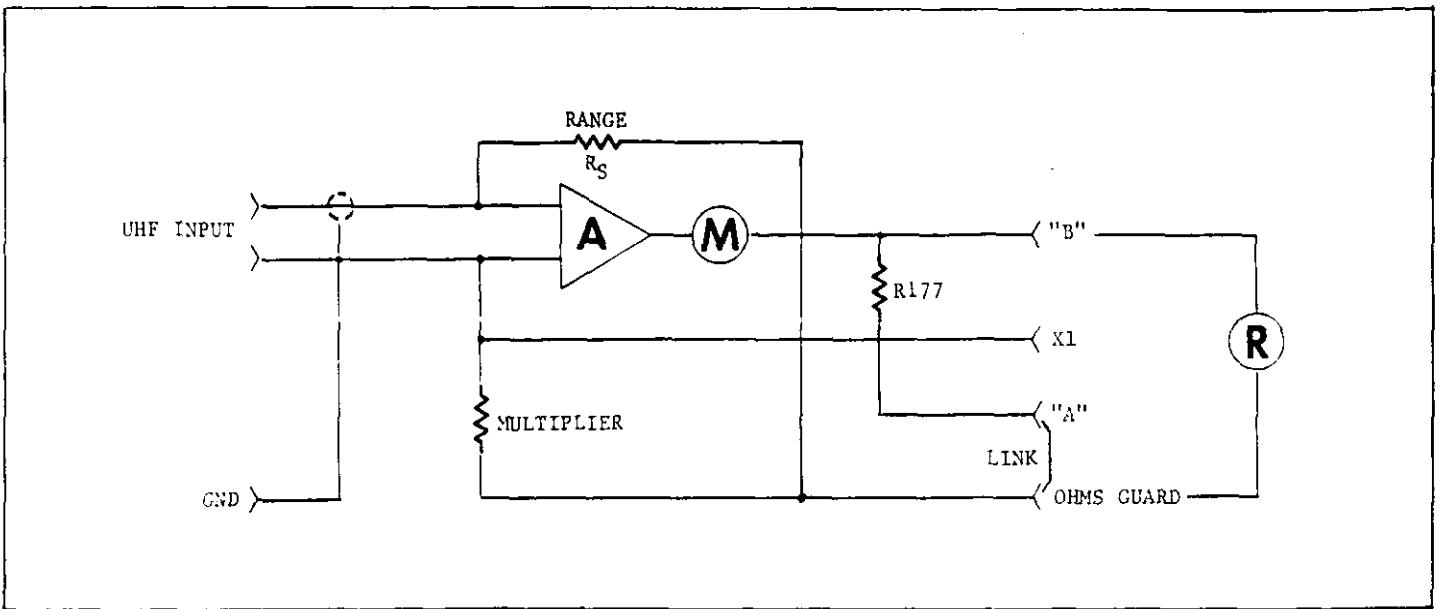

FIGURE 10. Block Diagram of Fast Mode Picoammeter.
a. Normal Method. In the normal method of current measurements (FEEDBACK Switch in NORMAL position), one of the Range Switch resistors, R136 through R146, shunts the input. (See Figure 10). The Model 600B then measures the voltage drop across the resistor. The meter is calibrated to read the current in amperes for the appropriate range.
fed back to the amplifier input through a feedback resistor selected with the Range Switch. (See Figure 10). Floating ground is connected to the low impedance side of the input, and the output ground is floating. This method increases the response speed by minimizing the effects of input capacity; it also reduces the input drop to less than 1 millivolt.
3-6. COULOMB METER OPERATION. The Model 600B circuit for measuring charge is similar to that used for an ammeter with the fast method. A negative feedback is applied around a shunt capacitor, C110 to C113, selected with the Range Switch. The shunt capacitor replaces  $R_S$  in Figure 10. The stored charge is proportional to the voltage across the capacitor, which is measured by the Model 600B voltmeter circuits.